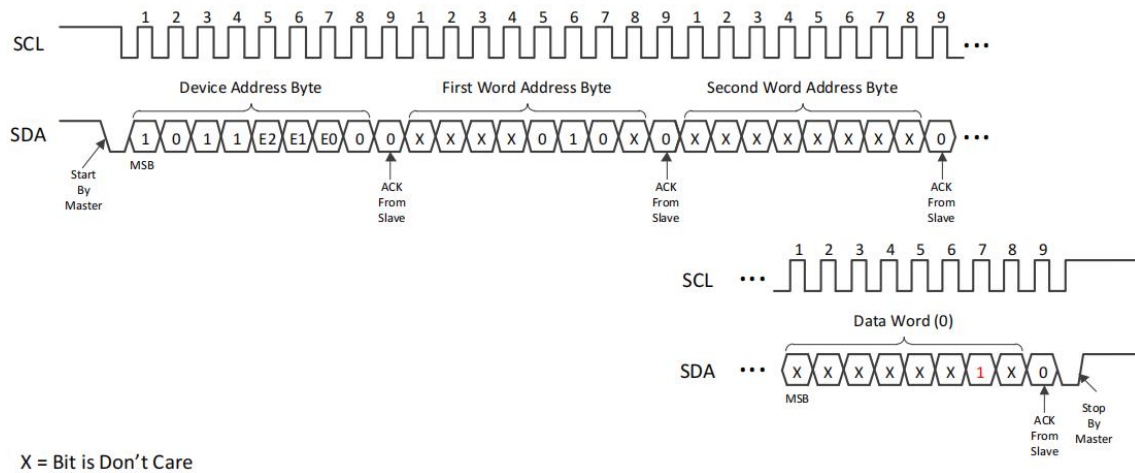

Figure 11 Lock Identification Page
- The data byte must be equal to the binary value xxxx_xx1x, where x is Don't Care (see Figure 11).